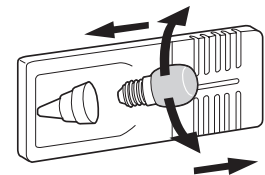

Figure 32
3. Replace the bulb (Figure 32).